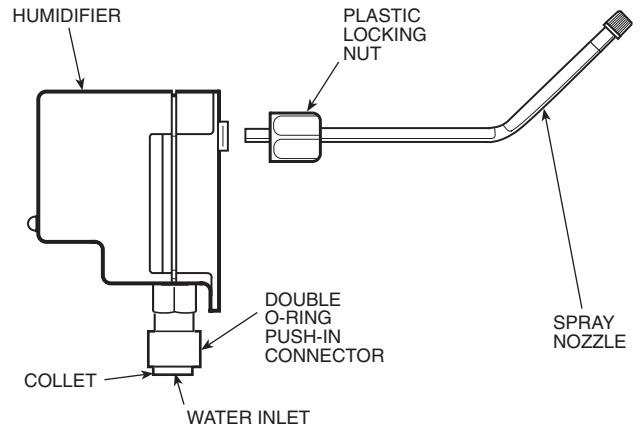

Fig. 3 — Spray Nozzle Installation
6. Slide plastic locking nut over end of spray nozzle. Push metal end of spray nozzle into back of humidifier nozzle connection. Tighten locking nut onto nozzle connection, locking spray nozzle to humidifier. Turn locking nut to finger tight, then tighten an additional $\frac{1}{4}$ turn with pliers or a wrench. Do not overtighten. Overtightening fittings will cause them to crack and split, which will create water leaks. See Fig. 3.